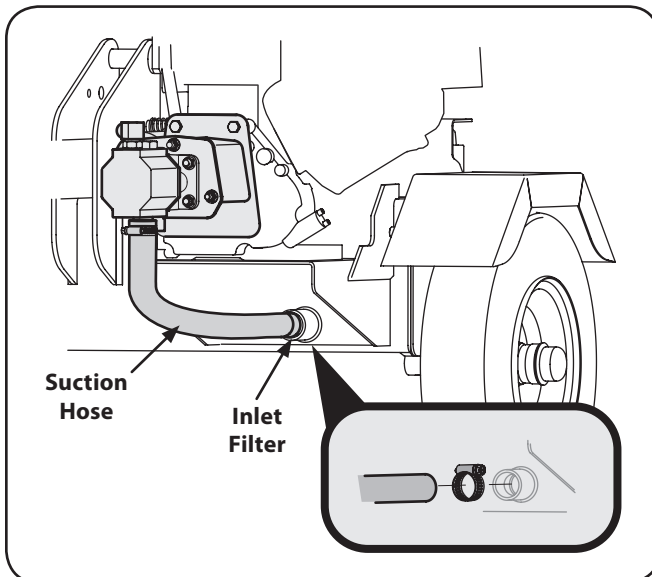

Figure 6-1
2. Disconnect the suction hose from the bottom of the reservoir tank. See Fig. 6-1.